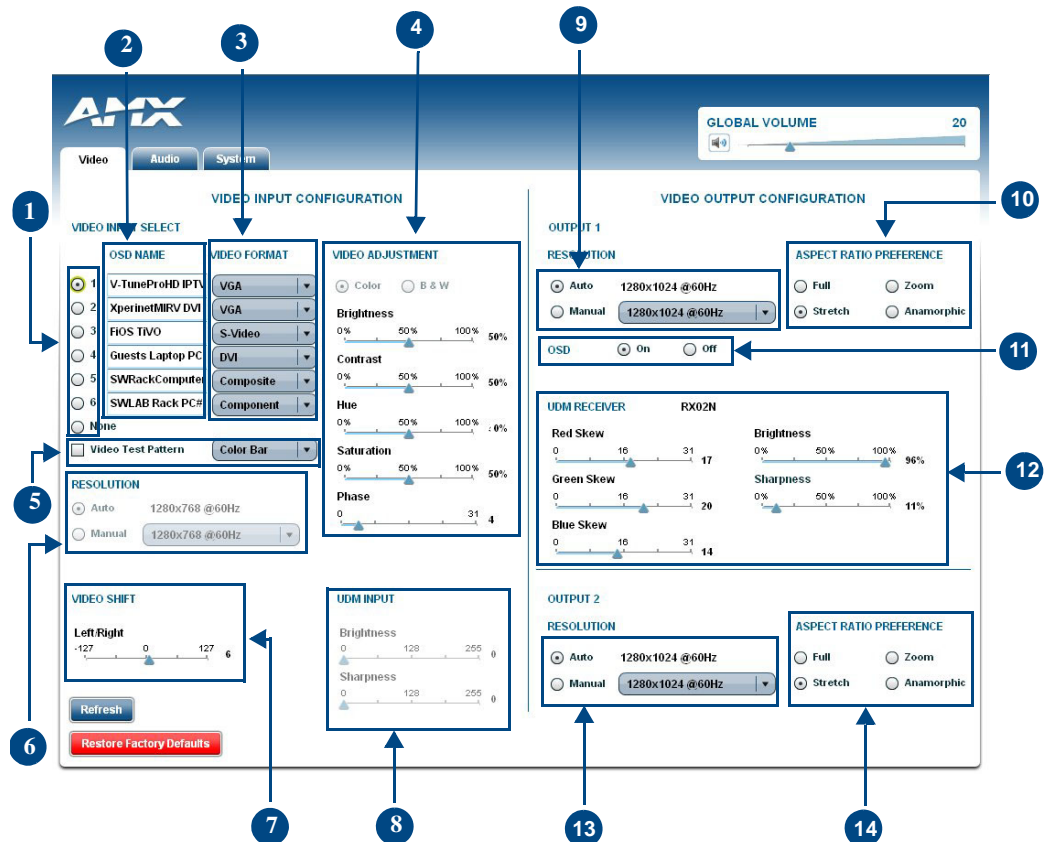

FIG. 57 WebConsole Configuration page - Video tab
3. Use the Device options menu at the top of the screen to select the <DEVICE #> - DVX-2100HD. The Configuration page opens in a separate pop-up window (FIG. 57).
FIG. 57 displays the Video page. The Video page enables you to set the resolution, aspect ratio, and picture qualities of each individual video input. Any changes you make reflect instantaneously on your source input and output devices.